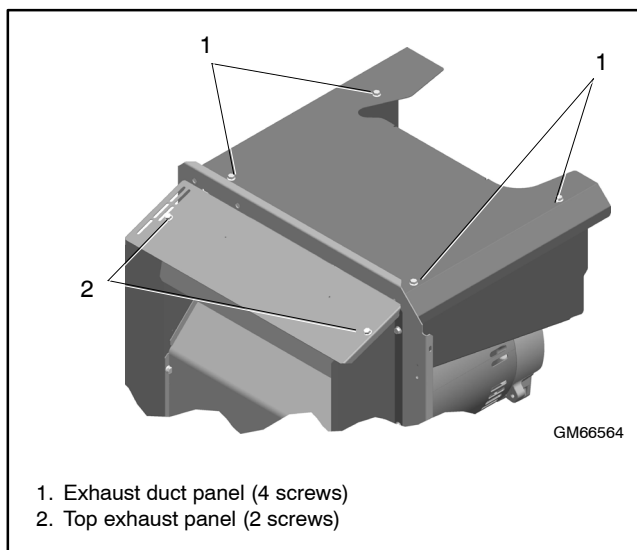
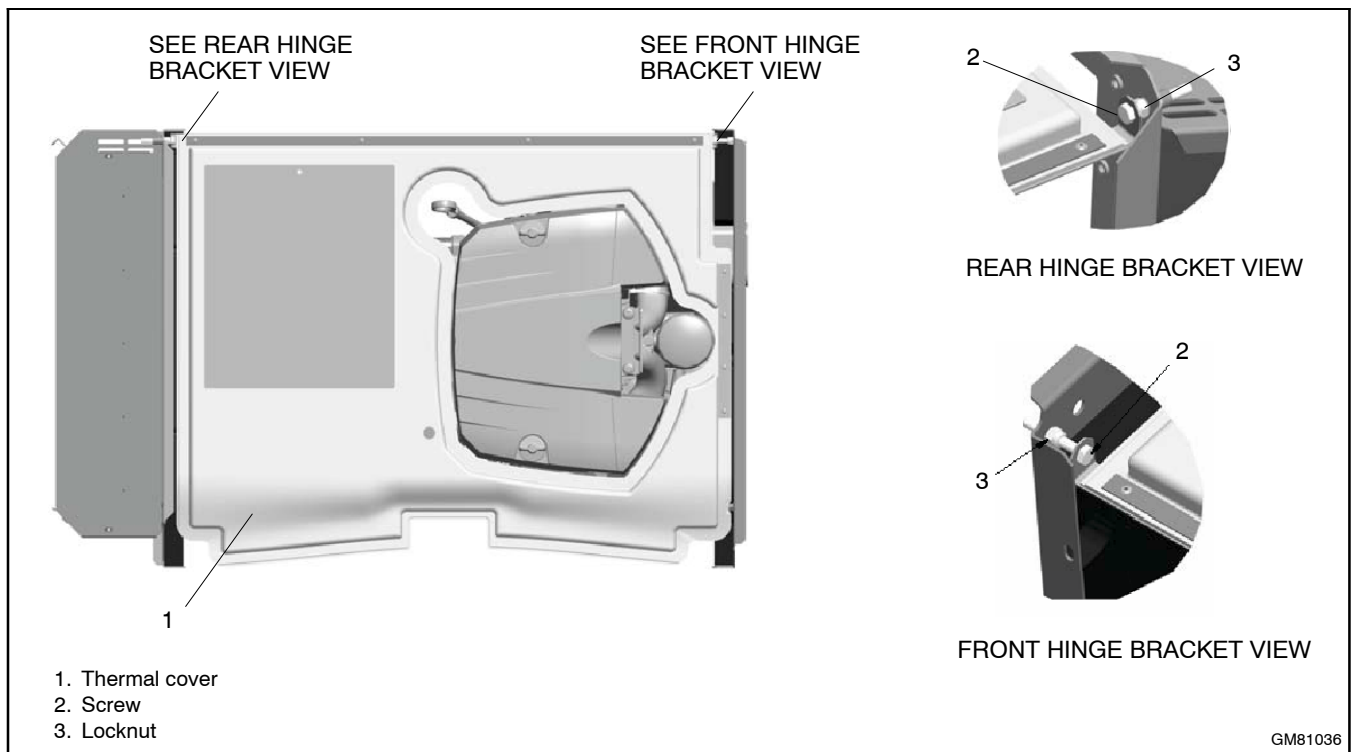

Figure 6-31 Exhaust Duct Top Panels (original)
Figure 6-32 Thermal Cover (revised design)
- e. Install the exhaust panels shown in Figure 6-31 or the thermal cover shown in Figure 6-32.